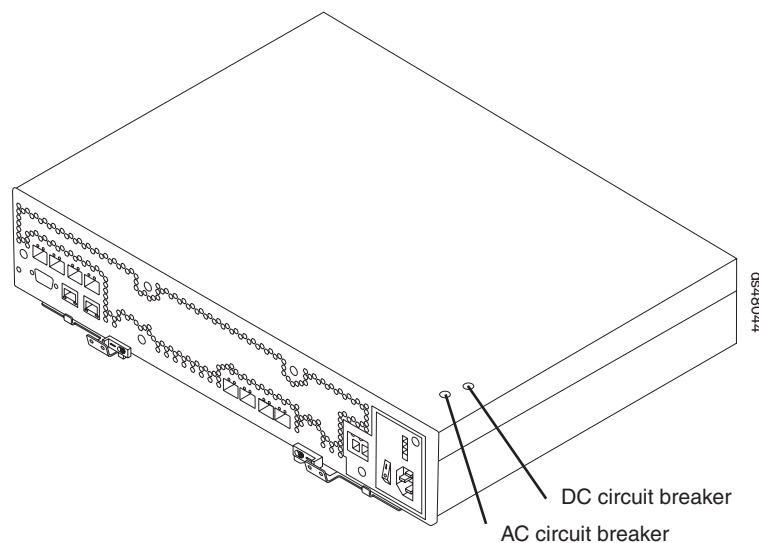

Figure 82. Circuit breaker access holes
8. Insert a nonconducting stylus through the appropriate hole in the cover of the controller and press down gently. One hole is over the AC circuit breaker, a second hole is over the DC circuit breaker. (DC is not currently supported for the DS4800.) Figure 82 shows the location of the circuit breaker access holes in the controller B cover.
**Note:** When controllers A and B are inserted in their respective controller slots in the DS4800, the location of the circuit breaker access holes are as follows. On controller A, the circuit breaker access holes are located on the left side on the bottom of the controller. On controller B, the circuit breaker access holes are located on the right side on the top of the controller (as shown in Figure 82).